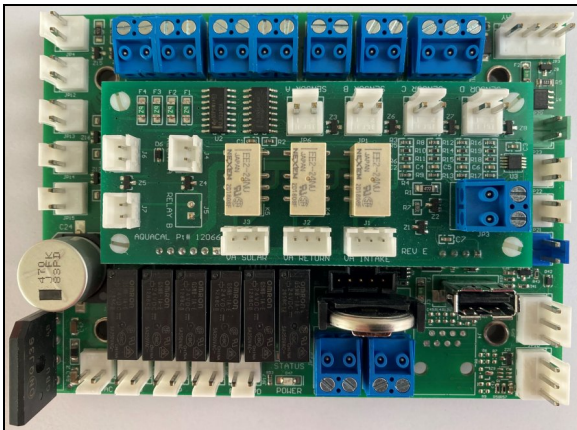
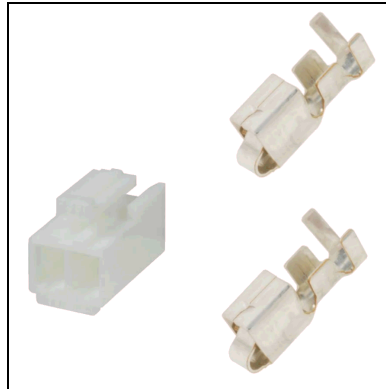
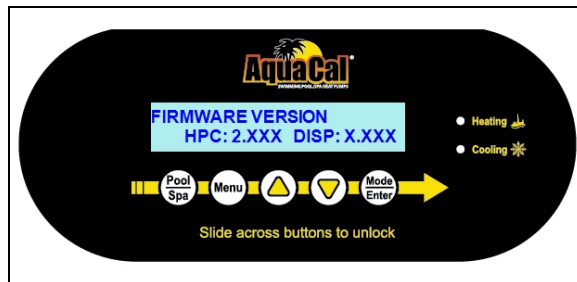

Figure 1 - HP9 Control Board with Expansion Board Installed
Figure 2 - Relay Connectors
Figure 3 - Firmware Version
1. Heat Pump with an HP9 Control Board and Expansion Board kit installed. See Figure 1.
2. One relay box with three (3) relays.
3. Four (4) wires of sufficient length to run from the circulation pump to the relay box.
4. Six (6) wires of sufficient length to run from the relay box to the heat pump.
5. Relay connectors for expansion board. See Figure 2.
- Six (6) crimp connectors (Digi-Key® part # SVH-21T-P1.1).
- Three (3) connector housings (Digi-Key® part # VHR-2N).
6. At least six (6) wire butt connectors.
7. Heat Pump firmware with a revision number of 2.000 or higher. See Figure 3.